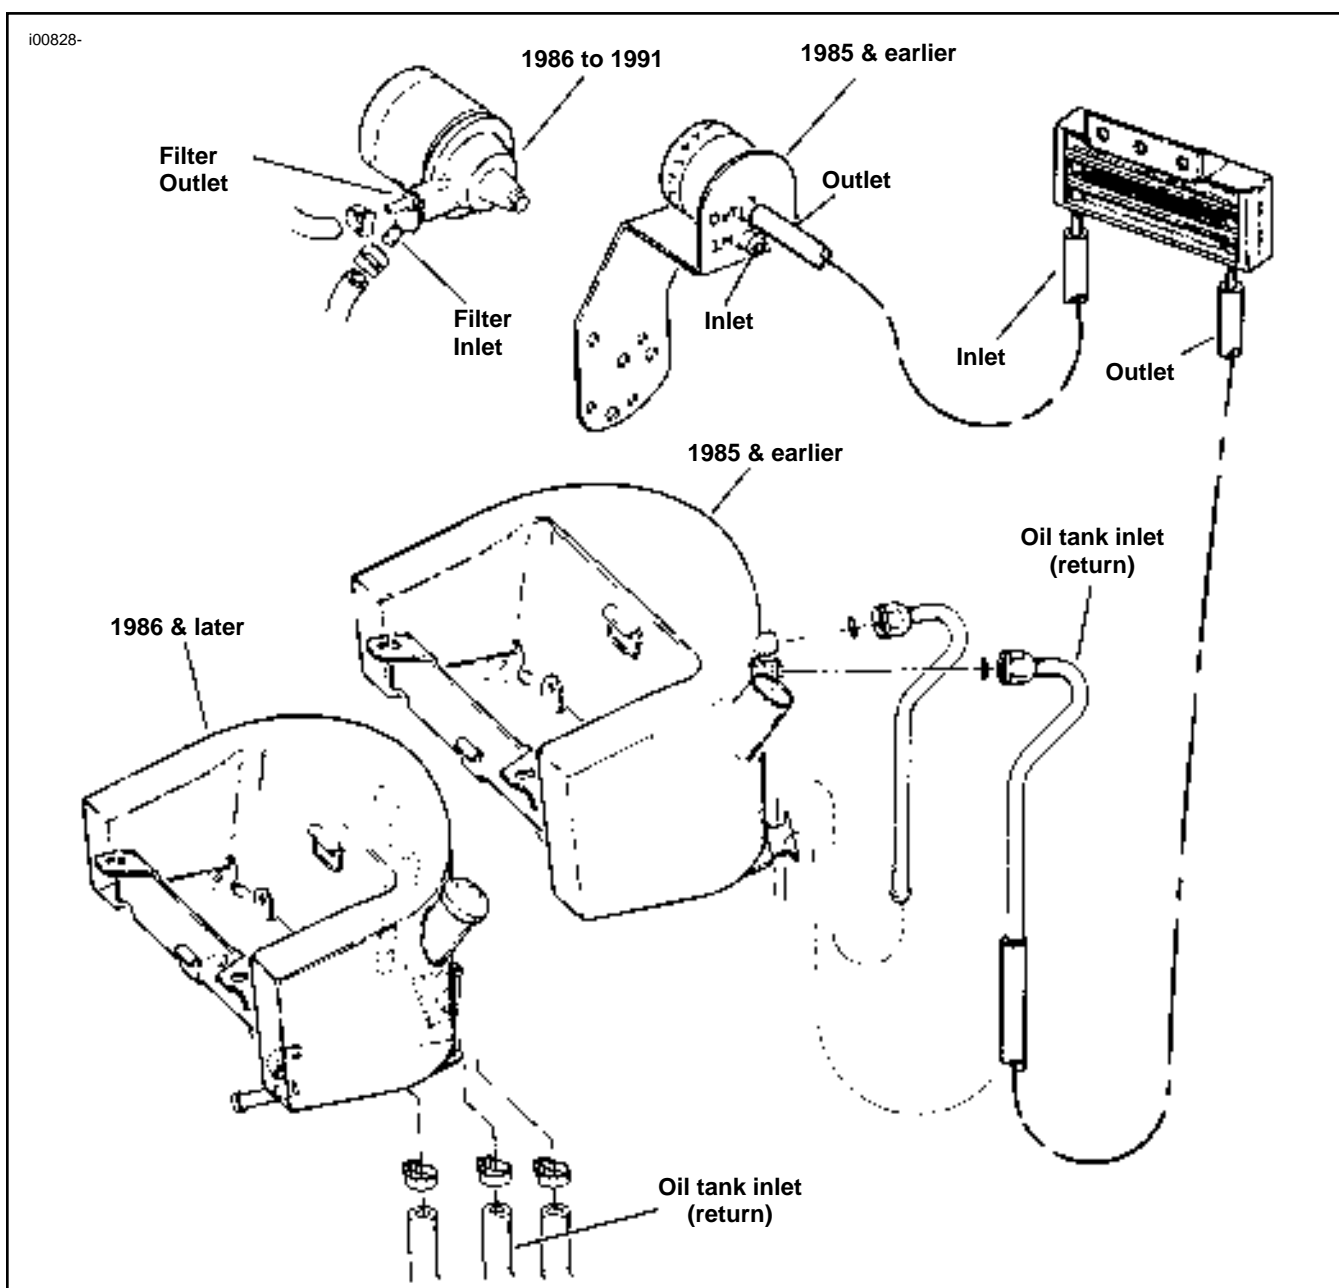

Figure 5. FXST/FLST Oil Cooler Hose Routing
1. See Figure 5. Cut a three foot length from kit hose. Attach one end to the outlet fitting on oil filter mount. Route other end up right downtube to oil cooler inlet fitting. Cut off excess hose and secure with clamp.